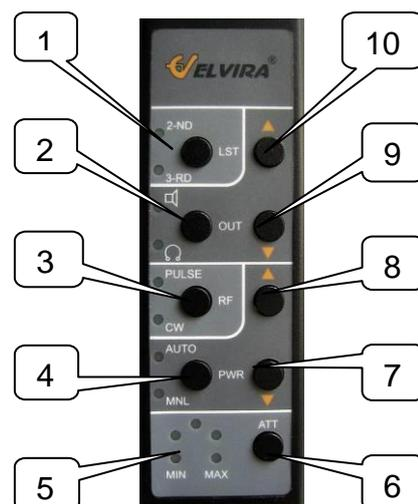

Fig. 4
operation modes control and display LEDs are placed in the package. Control buttons are divided into two groups by their function: «AUDIO» placed in the upper half of the panel and «POWER RF» in the lower half. Control panel is shown in Fig.4 The following buttons refer to «AUDIO» group:
**6.4.** If a response signal is to be tapped by phones, switch over acoustic indication to the head phones mode pressing the corresponding button on the control panel (see 2 in Fig.4) and turning wireless phones on (according to their User Manual).